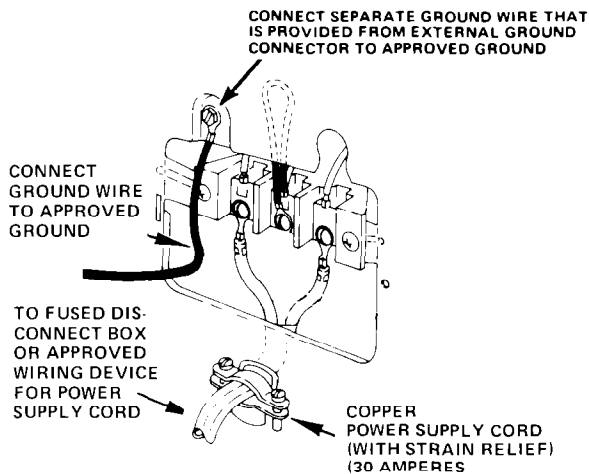
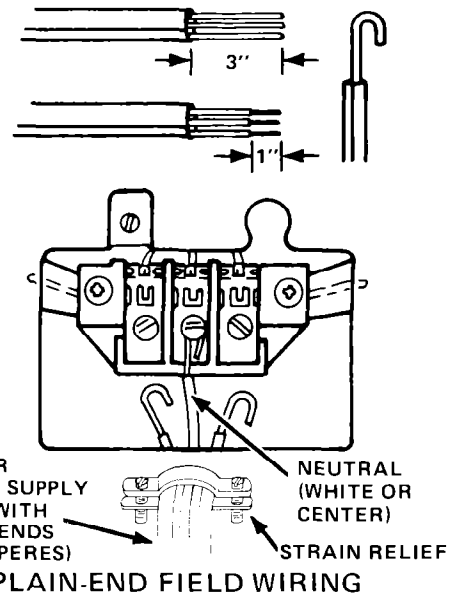
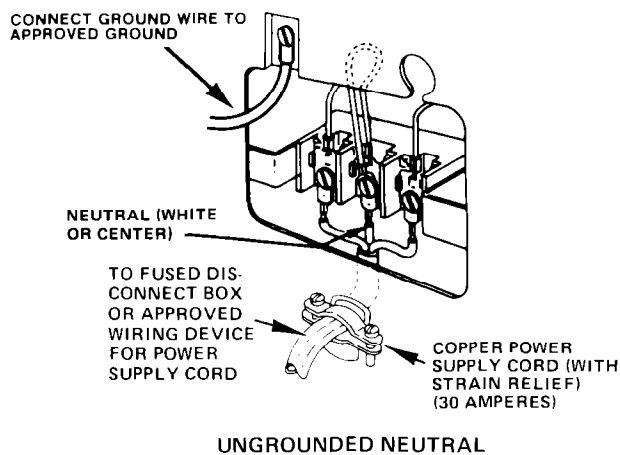

Figure 3
Figure 5
Figure 6
- Connect the two wires of the power supply cord to the outer terminals of the terminal block (see Figure 3). For connecting plain-end field wire, see Figure 5.
- Connect the free end of the external ground wire to a grounded cold water pipe* by means of the clamp on the free end of the ground wire. DO NOT ground to a gas supply pipe. Do not connect the power supply cord to electric power supply until appliance is permanently grounded. See Figure 3 and 4.
2. Connect the neutral wire of the power supply cord to the center terminal of the terminal block and connect the other wires to the outer terminals. See Figure 6. For connecting plain-end field wire (see Figure 5).